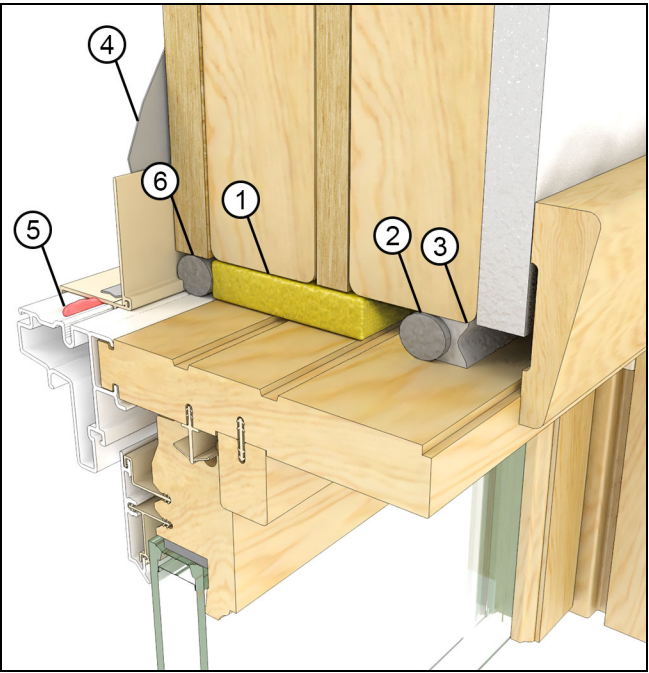

Figure 57
**2. Low Expansion Foam.** Install a backer rod at the exterior plane of the RO. Apply a low expansion/low compression closed cell foam in the cavity. Install a backer rod and sealant at the interior plane of the RO to create a continuous air seal. See Figure 57.